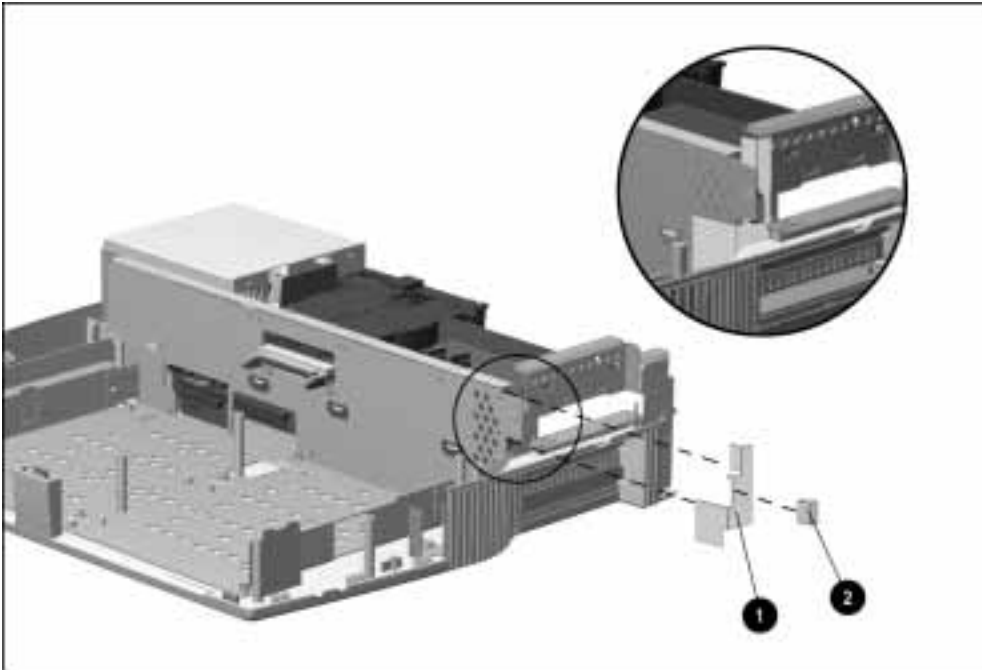

Figure 5-46. Replacing the Subpan Side Shield and Backplane-Brace Spacer
2. Insert the subpan side shield ❶ between the backplane assembly and lower case sheetmetal, making sure the square section of the shield is positioned in front of the backplane assembly as illustrated in Figure 5-46.
3. Remove the backing from the backplane-brace spacer ❷ and insert it between the backplane assembly and the subpan side shield.